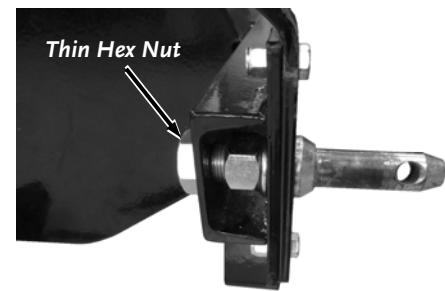

Figure 8
5. Install the thin Hex Nut at the threaded end of the Pin and tighten with an Adjustable Wrench (**Figure 8**).